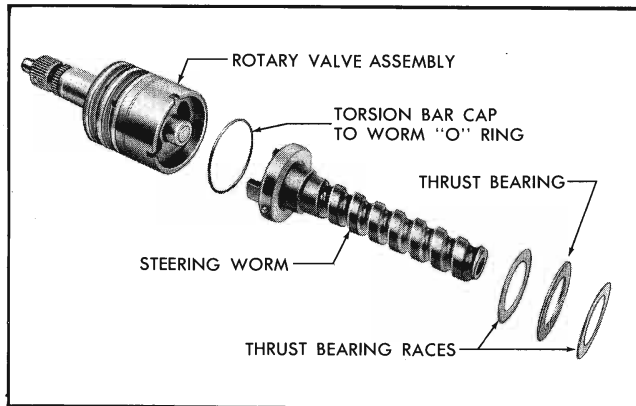

Fig. 9A-32 Worm Shaft and Rotary Valve—Exploded View
1. Assemble lower thrust bearing and races on worm (Fig. 9A-32).